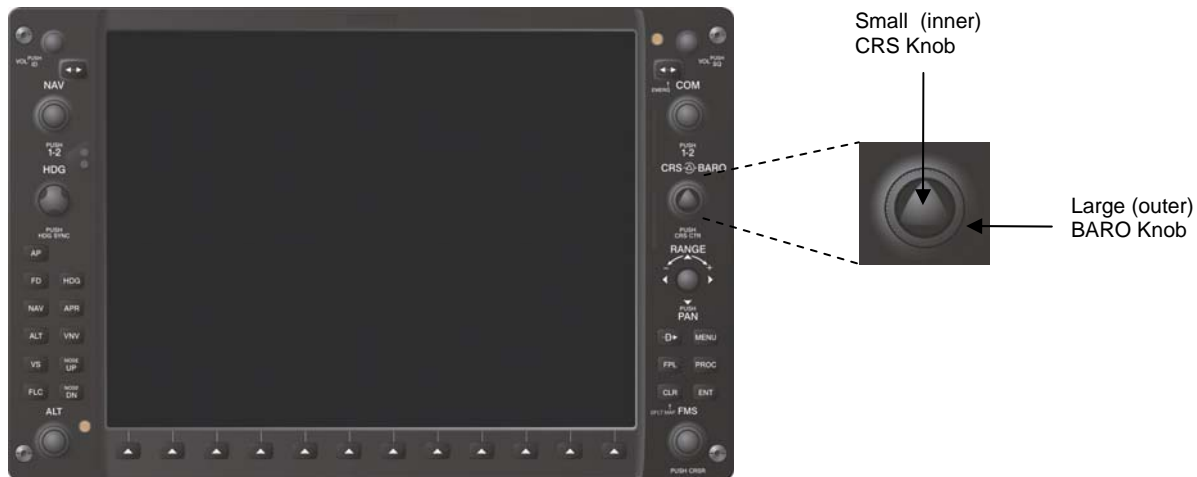

Figure 1
3. Rotate the large (outer) BARO knob (refer to Figure 1) a minimum of three complete revolutions in each direction while monitoring the Horizontal Situation Indicator/Digital Course Indicator (refer to Figure 2) on the PFD. If a change in the Horizontal Situation Indicator/Digital Course Indicator is produced while turning the BARO knob proceed to the Modification Instructions.
4. Rotate the small (inner) CRS knob (refer to Figure 1) a minimum of three complete revolutions in each direction while monitoring the Barometric Altimeter Setting (refer to Figure 2) on the PFD. If a change in the Barometric Altimeter Setting is produced while turning the CRS knob proceed to the Modification Instructions.